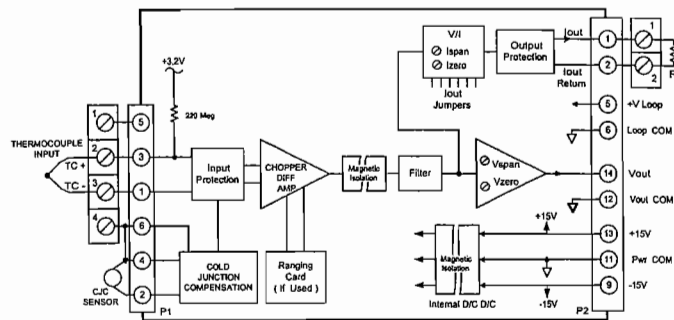

Figure 2.1.10.1 3B37 Functional Block Diagram
Figure 2.1.10.1 shows a functional diagram for the model 3B37. Input protection of up to 220V is provided for the input circuitry. Cold Junction Compensation with an initial accuracy of ±0.5°C is performed in each unit with the external sensor provided on all channels of the 3B Series backplane. The signal is amplified and filtered to give the high level voltage outputs. Chopper based amplification is used to assure low drift and excellent long term stability. Transformer coupling is used to achieve stable galvanic isolation between input and output. Both the voltage and current outputs can be independently adjusted over a ±5% span range for zero and span with the front panel accessible potentiometers. The current output, which has 130V output protection, interfaces with user equipment through screw terminal connections.
1. Make connections as shown in Figure 2.1.10.1 with  $R_L = 250\Omega$ . Use a precision millivolt source.
Gain  $G$  is a ratio of the change of output to the input change that produced it. If there is to be no zero suppression, (i.e., 0°C = 0mV = 0V output) then  $R_2$  should be a jumper and  $R_3$  should be left open. Refer to the cold junction compensation section for the value for  $R_4B$ . These resistors should be installed as indicated in Figure 2.1.10.2.